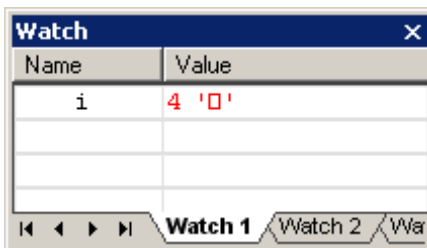

Figure 8: Watch window for C variables.
- To monitor a C variable, select the variable name in the code window and click menu **Debug | Quick Watch**. The variable will be added to a watch window, as in Figure 8.